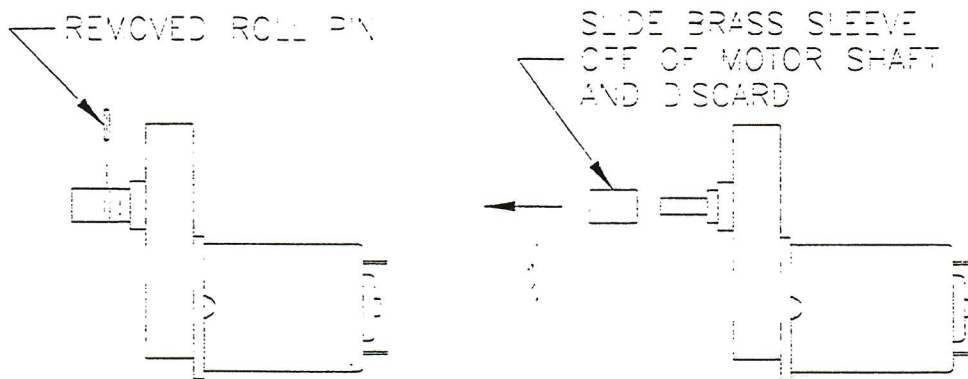

FIGURE 7
- After roll pin is removed, remove the brass sleeve and discard. (See Fig. 7)